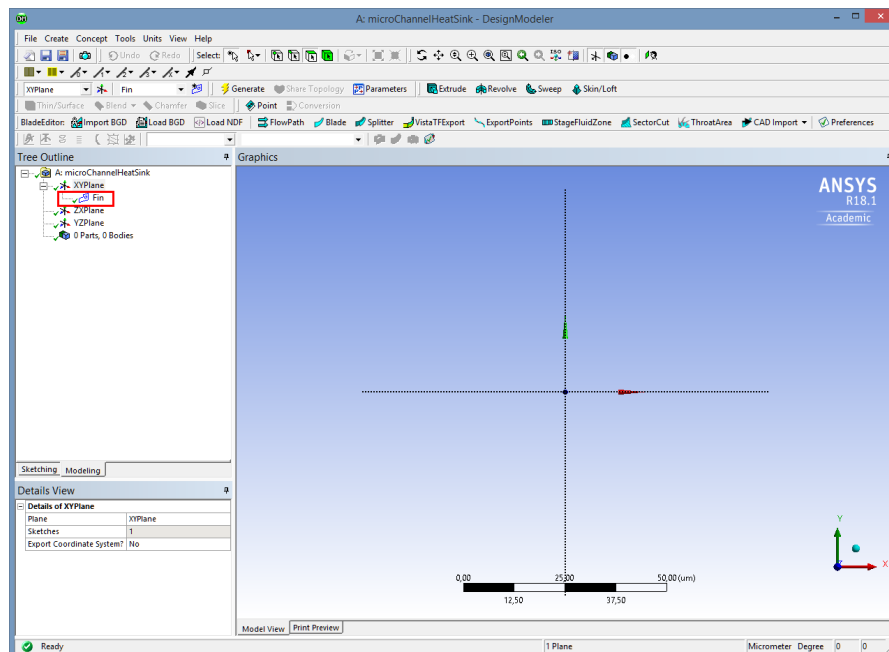

Figure 7: New sketch *Fin* in DM.
- Click on the *New Sketch* icon () , available on top, and right-click to rename the sketch as *Fin*. The DM window will look as in figure 7.